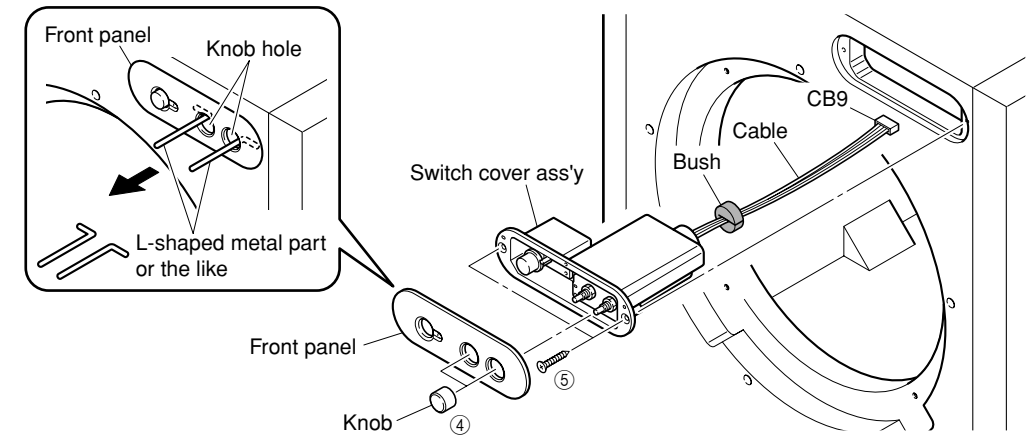

Fig. 3
- a. Remove 2 knobs (④). (Fig. 3)
- c. Remove 2 screws (⑤). (Fig. 3)
- d. Pull out the switch cover ass'y. (Fig. 3)
- e. Remove bush. (Fig. 3)
- f. Remove the switch cover ass'y together with the cable/ CB9. (Fig. 3)